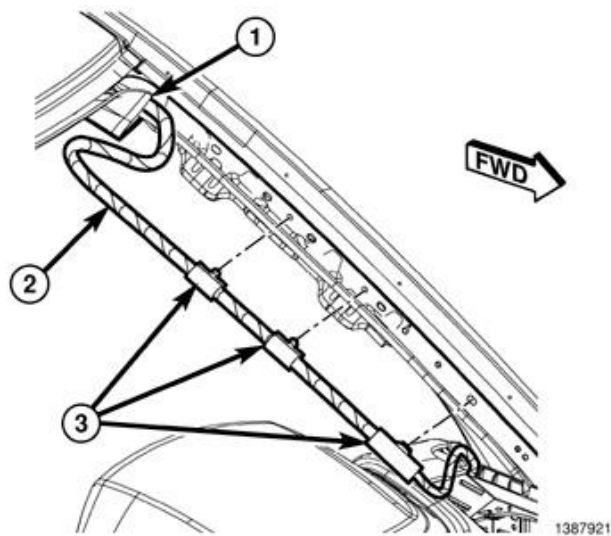

Figure 61 – Headliner Harness
31. As necessary, release the headliner wiring harness clips (3) from the A-pillar to allow enough wiring harness slack for lowering the headliner (Figure 61).
51. Reattach any headliner wiring harness clips (3) removed from the A-pillar to allow slack while lowering headliner (Figure 61).